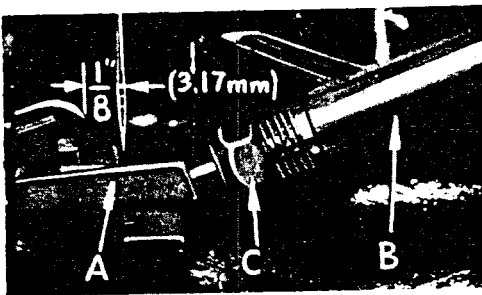

Fig. 5
On all of the Varieties covered in this catalog except 695B054, insert lower looper (A, Fig. 5) into bar (B). With lower looper at left end of its stroke, set looper point  $\frac{1}{8}$  inch (3.17 mm) from center of needle (Fig. 5), using looper gauge No. 21225- $\frac{1}{8}$ . Do not have lower looper deflecting needle. Tighten nut (C).
On machine [redacted] insert lower looper (A, Fig. 5) into bar (B). With lower looper at left end of its stroke, set looper point  $\frac{3}{32}$  inch (2.38 mm) from center of needle (Fig. 5), using looper gauge No. 21225- $\frac{3}{32}$ . Do not have lower looper deflecting needle. Tighten nut (C).